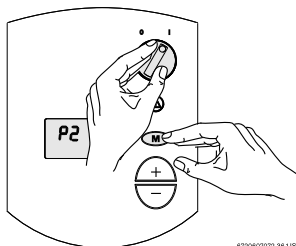

Fig. 36
- ▶ While holding the Program (M) button, move the ON/OFF switch to ON (I) position (see Fig. 36). As soon as '188' flashes on the display, release the Program button. The display should now read P2.